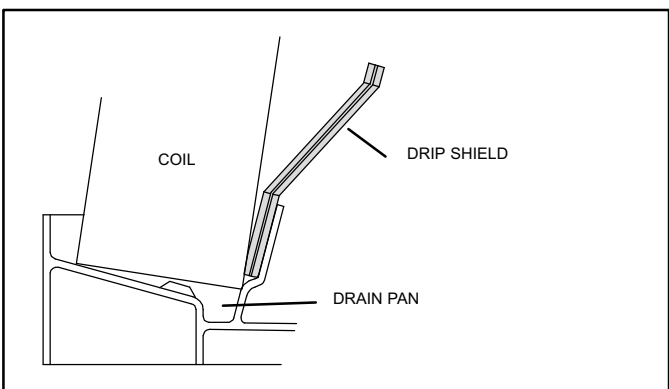

Figure 8. Downflow Drip Shields
17. From the underside of the coil, install the downflow drip shields N. Make sure that the shield is firmly in place. It may be necessary to apply light force to position the shields into the bottom of the drain pan (see figures 8 and 9).